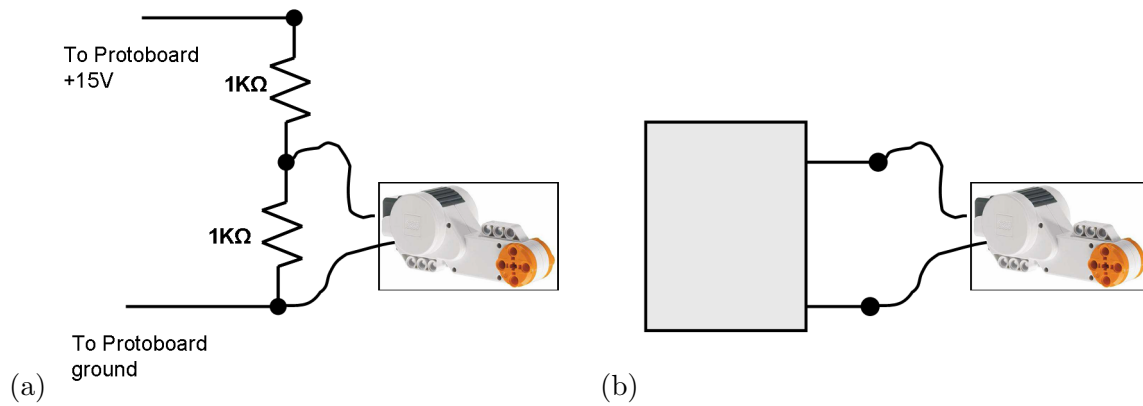

Figure 1: (a) The circuit you tried in lab, which did not work. (b) Abstracting the motor driver as a 1-port.
The lab (optional part) asked you to try driving the motor with +7.5V by setting the the protoboard at +15V and connecting the motor across two $1\text{K}\Omega$ resistors. This was observed not to work. (See figure 1(a).)
1. The circuit that drives the motor consists of voltage sources and resistors. It is a two-terminal circuit that can be viewed as a 1-port, as shown in figure 1(b). Sketch the Thévenin equivalent model of the 1-port, giving the values of V_{TH} and R_{TH} .
2. Write a couple of sentences to explain, as clearly as you can, why the circuit of figure 1(a) fails.